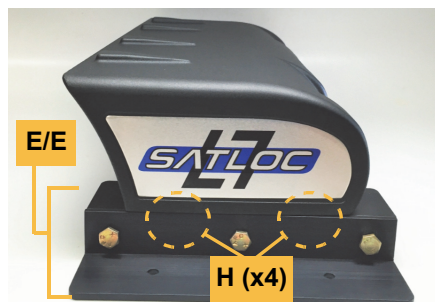

Figure 2a: Lightbar on brackets (E/E shown)
- Using hardware **H** (not visible), attach the lightbar to the assembled brackets (Figure 2a - E/E bracket combination shown).